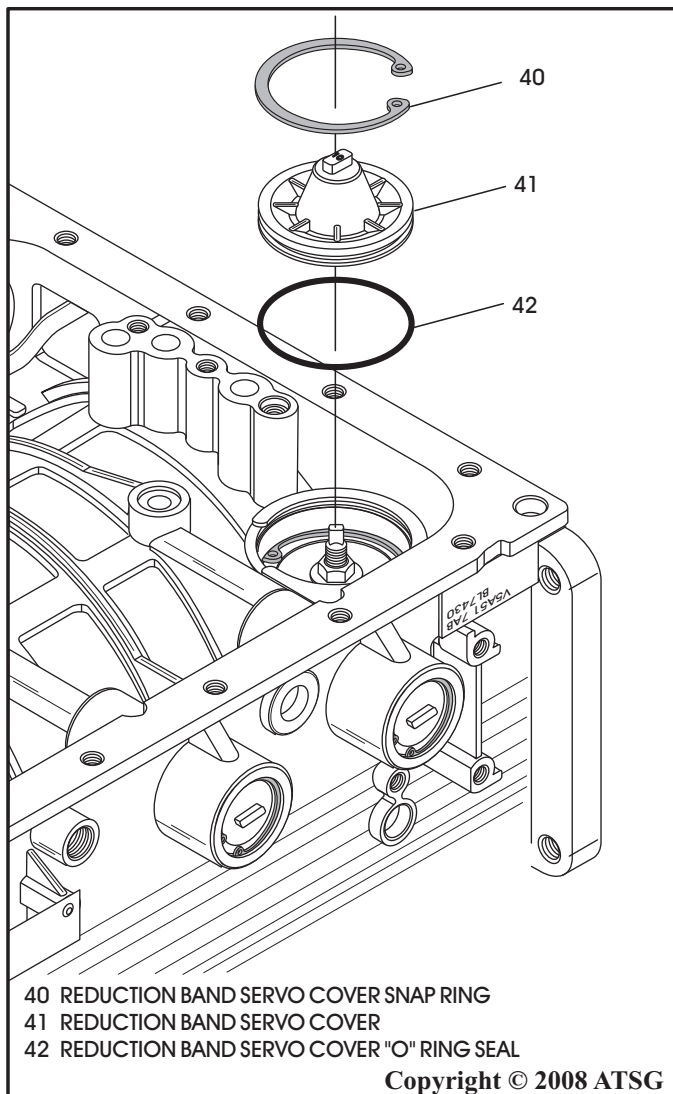

Figure 40
18. On 5 speed units, remove the reduction band servo cover, as shown in Figure 40, remove and discard the "O" ring seal.